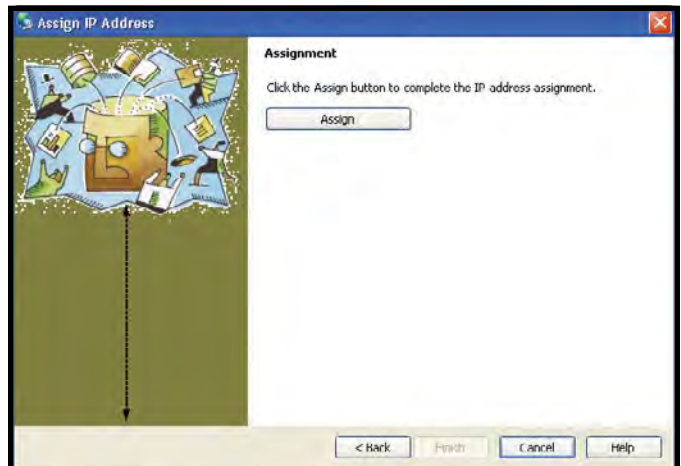

Figure 9. Assign IP Address, Assignment window
9. Click "Assign" (see Figure 9). DeviceInstaller will then configure the Ethernet Board. Click "Finish" when complete. If successful, skip to the "PING DEVICE" section of this procedure.